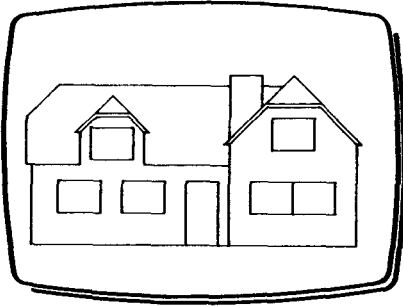

Fig 1
- 2 COPY a library unit from the Library, for example, the house (Fig 1).